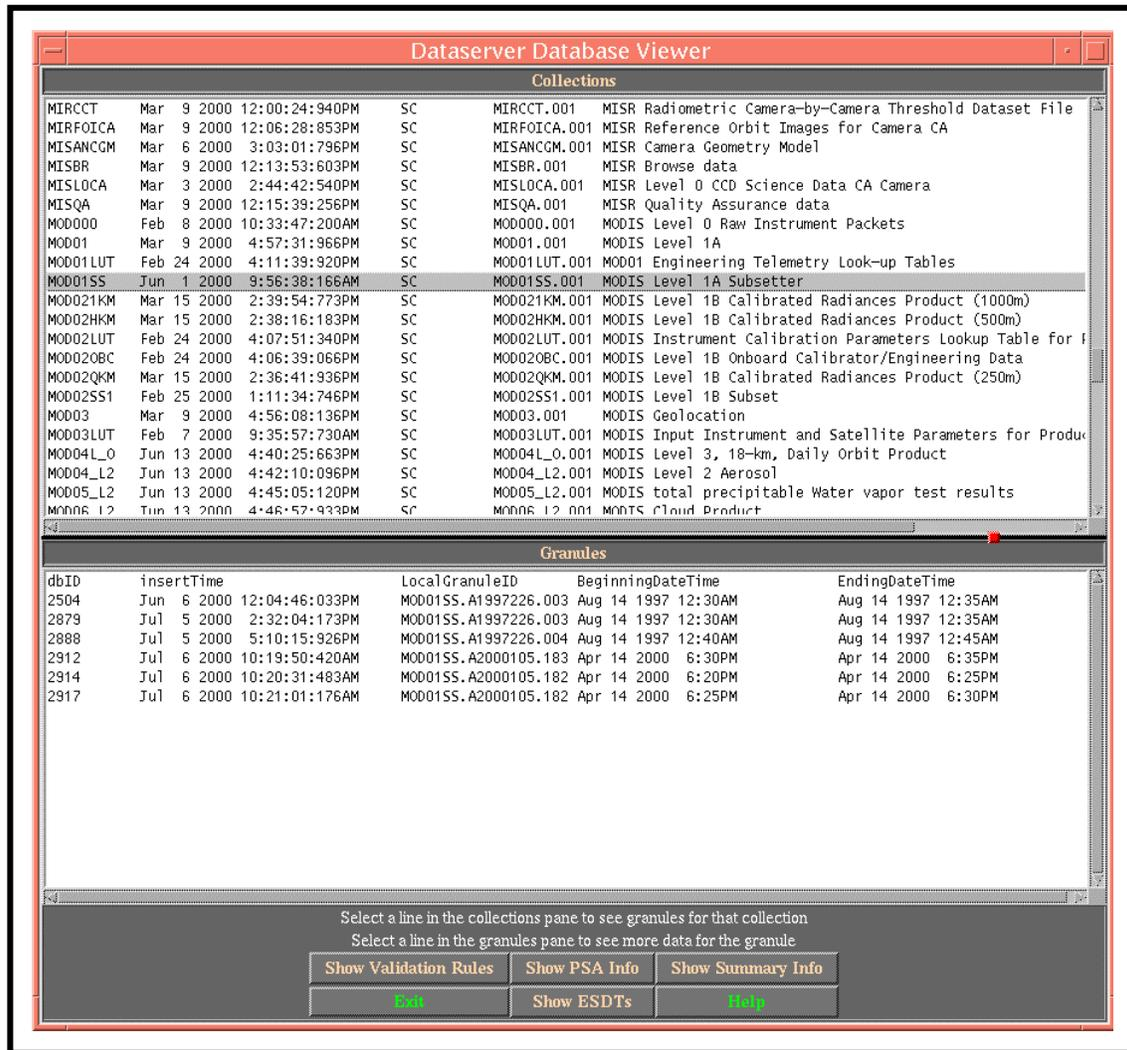

Figure 11. DB Viewer GUI
- The DB Viewer GUI will appear as shown in Figure 11.